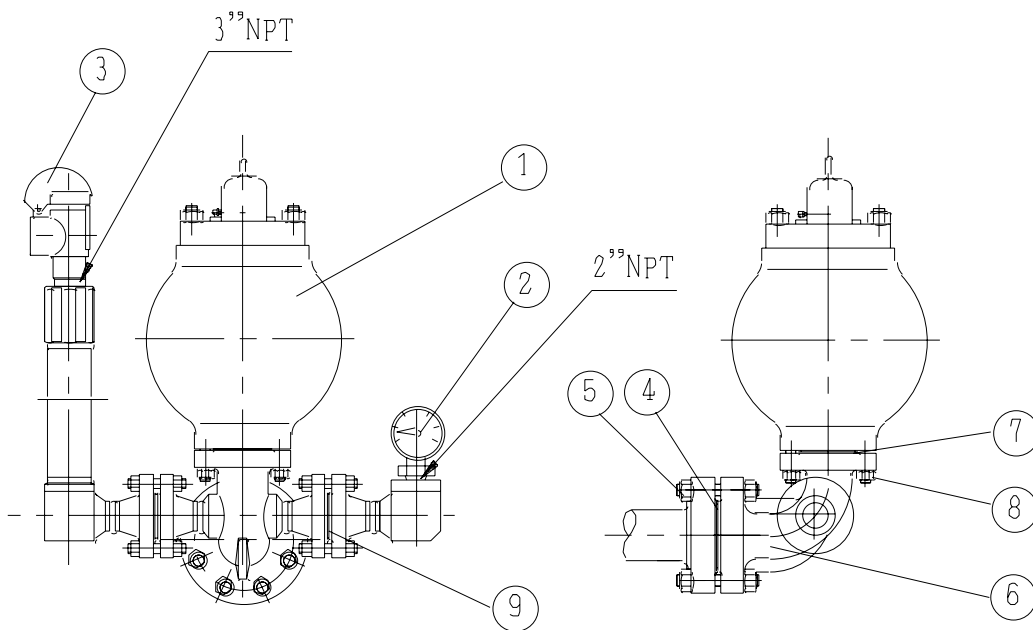

Fig. 9 Auxiliary Manifold and Discharge Manifold
An auxiliary manifold is shown in Fig.9. It can be installed on the discharge manifold opposite the discharge end. The manifold can connect with KB-75 pulsation dampener (1), shear relief pin (3) and pressure gauge (2).